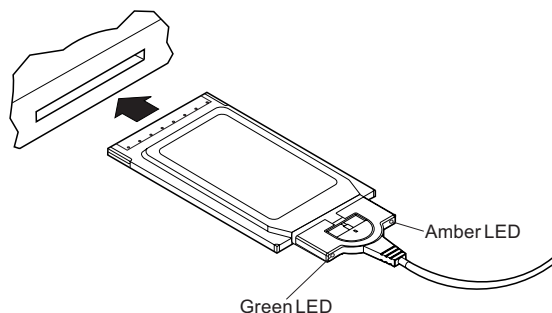

Figure 4. Inserting the adapter into the CardBus slot
5. Insert the CardBus adapter in the slot, as shown in Figure 4. If you are using a point enabler, note which slot you use.